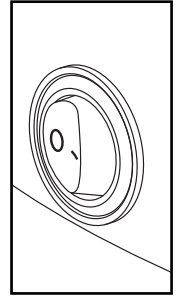

Fig. 6
5. Turn the power switch off (fig. 6).
8. Turn the power switch on (fig. 6). The power switch illuminates and the machine starts heating the water.